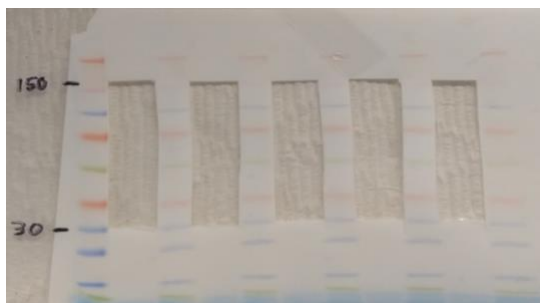

Figure 1. IP nitrocellulose membrane region
2. Using a clean razor blade for each sample, carefully cut the region from 30 kDa to 150 kDa from the IP nitrocellulose membrane (see **Figure 1**).